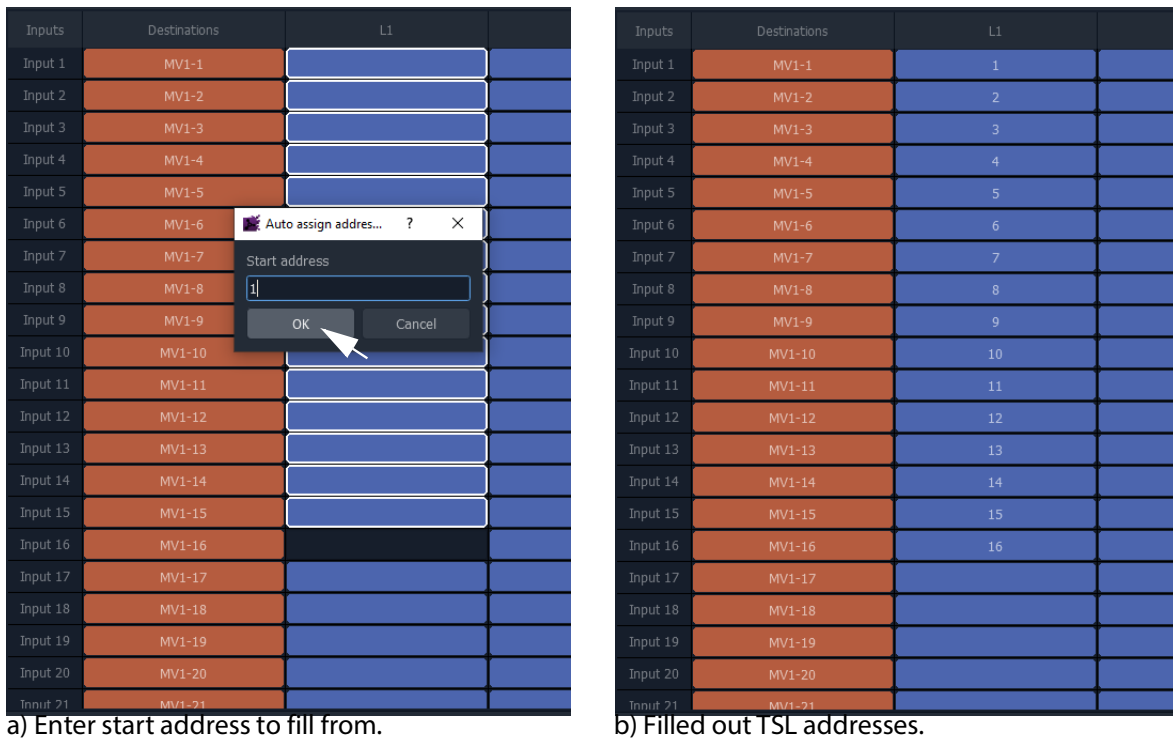

Fig. 17-4: TSL Address Range Filled Out
- 3 Click on the **Auto-Assign TSL Addresses** button and enter a start TSL address in the pop-up dialog. (See Figure 17-4.)